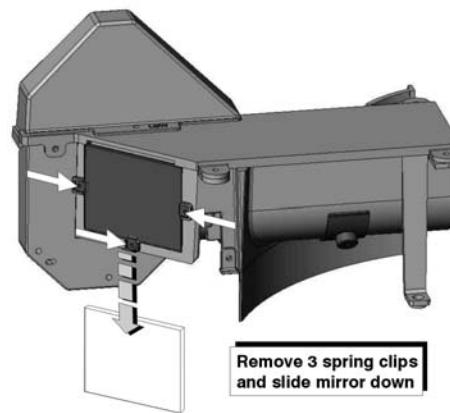

Figure 11. Removing the Cold Mirror
4. Remove the three (3) screws securing the cold mirror to the optical tray. (Figure 11.)